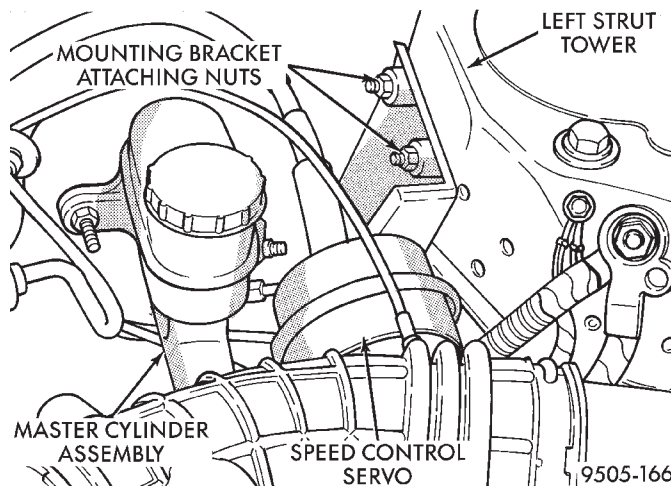

Fig. 93 Speed Control Servo Attachment
(3) If equipped, remove the vehicle's wiring harness connector from the speed control servo. Remove the 2 speed control servo mounting bracket to strut tower attaching nuts (Fig. 93). Without removing speed control cable from servo, move speed control servo out of the way.
- (11) If equipped, install speed control servo on the mounting studs in the left strut tower (Fig. 93). Install the 2 speed control servo bracket mounting nuts (Fig. 93). Tighten the 2 mounting nuts to a torque of 6 N·m (55 in. lbs.).
- (12) Check brake light switch for correct adjustment. If required, adjust stop lamp switch as necessary. See required procedure in the Service Adjustments Section in this group of the service manual.
- (13) Road test vehicle to ensure proper operation of the vehicles brake system.